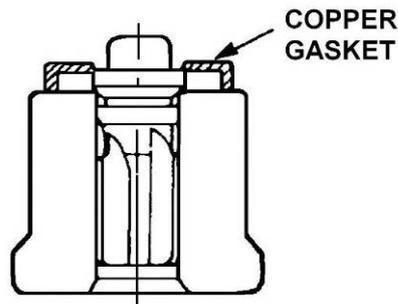

Figure 79 Delivery Valve and Gasket - Sectional View
- c. Lubricate the delivery valves with clean diesel fuel and install the delivery valves into their respective bores together with new copper gaskets. Ensure that the gasket is installed as shown (Figure 79).